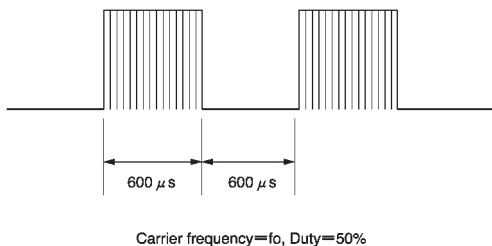
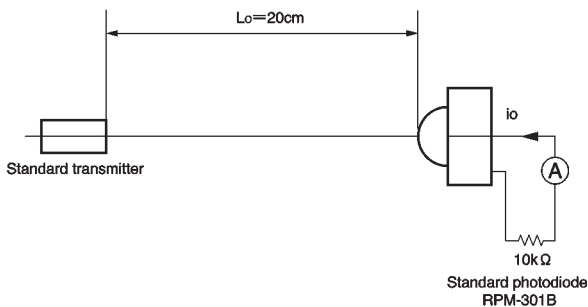
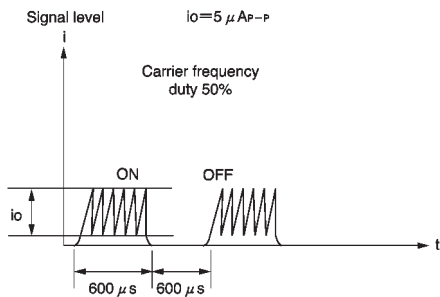

Fig.1 Transmit signal
Fig.2 Measurement of standard transmitter proofreading
Fig.3 Standard photodiode current
*1 The burst wave form mentioned in fig.1 is to be transmitted from standard transmitter (fig.2).
When standard transmitter output the signal at Fig.1 standard photodiode output become $i_o = 5 \mu\text{A p-p}$ under the measurement condition Fig.2, Fig.3.
(1) All characteristics of the receiver in this specification are specified by supplying burst wave form with ROHM standard transmitter (Fig.2).